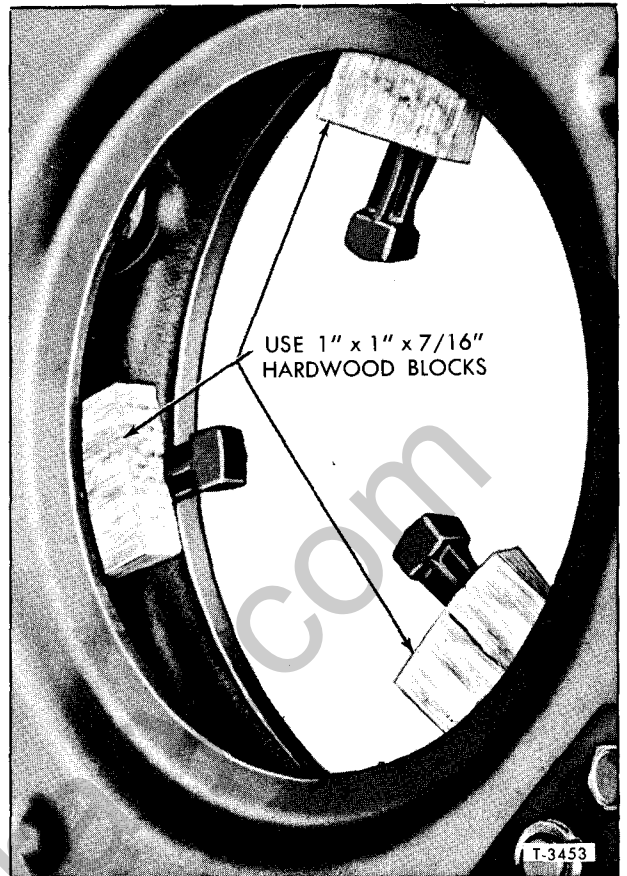
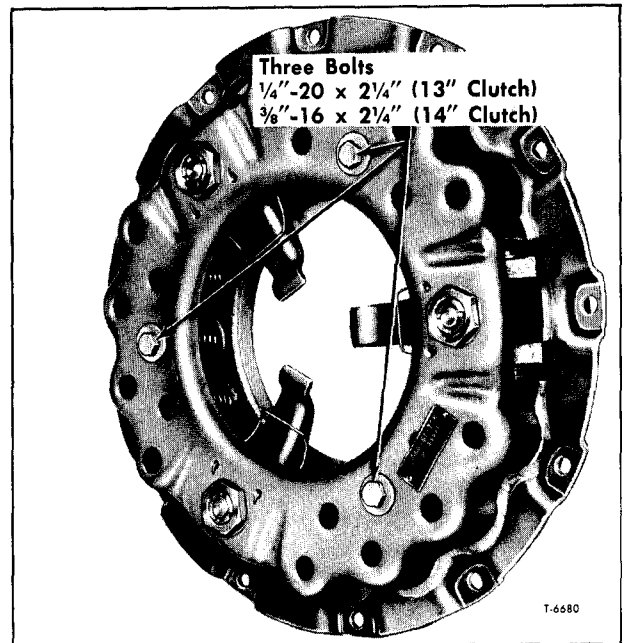

Figure 3—Use of Blocks Between Release Lever and Cover (Long Clutch)
Figure 4—Clutch Cover Hold-Down Bolts (Lipe-Rollway Clutch)
IMPORTANT: To facilitate removal of the Long clutch cover assembly, install three hardwood blocks between the release levers and cover as shown in figure 3.
On Lipe-Rollway clutches, install three flat washers and hold-down bolts as shown in figure 4.
1. Be sure the wood blocks (fig. 3) or hold-down bolts and washers (fig. 4) are installed in the clutch cover assembly.
IMPORTANT: After installing clutch cover assembly be sure to remove wood blocks or hold-down bolts and washers (refer to figs. 3 and 4).